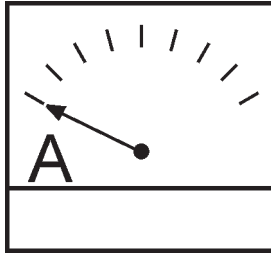

Figure 25. Ammeter (No Load)
5. The ammeter (Figure 25) will indicate **zero amps** with no load applied. When a load is applied, the ammeter will indicate the amount of current that the load is drawing from the generator.